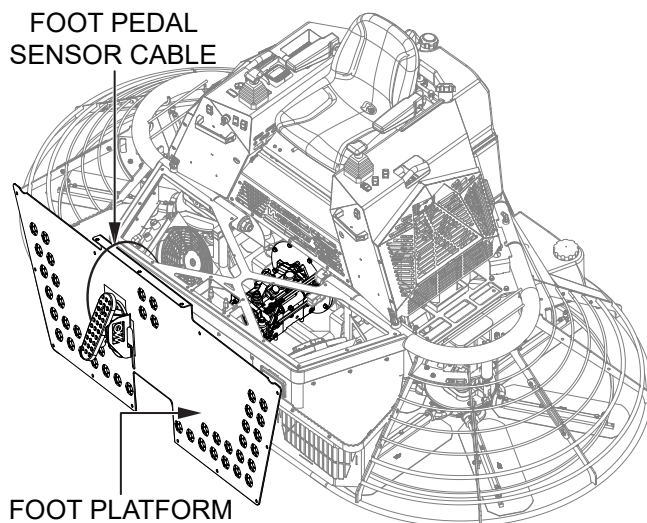

Figure 4. Foot Platform Removal
2. Remove the foot platform and set it **in front** of the trowel as shown in Figure 4. **DO NOT** disconnect or remove the foot pedal sensor cable.